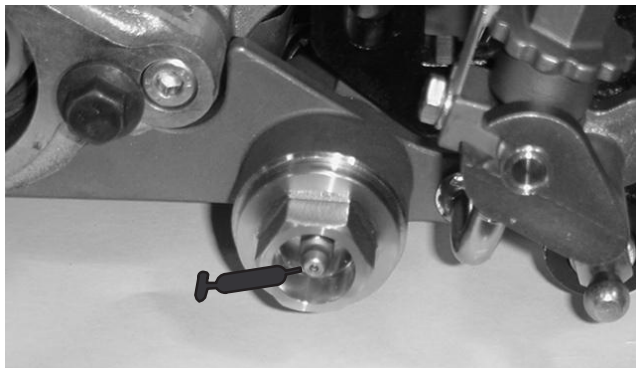

Figure 20
37. Lubricate the groomer bearings (Fig. 20 & 21) weekly or after every 10 operating hours, before extended periods of non use and immediately after every washing. Pump grease into fittings until grease is purged onto groomer shaft. Wipe excess grease from seals and shaft.